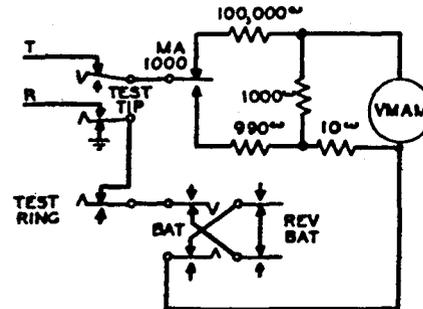

Fig. 6 - Potential on Tip
3.19 Potential on Tip (See Fig. 6): Operate the TEST TIP key.